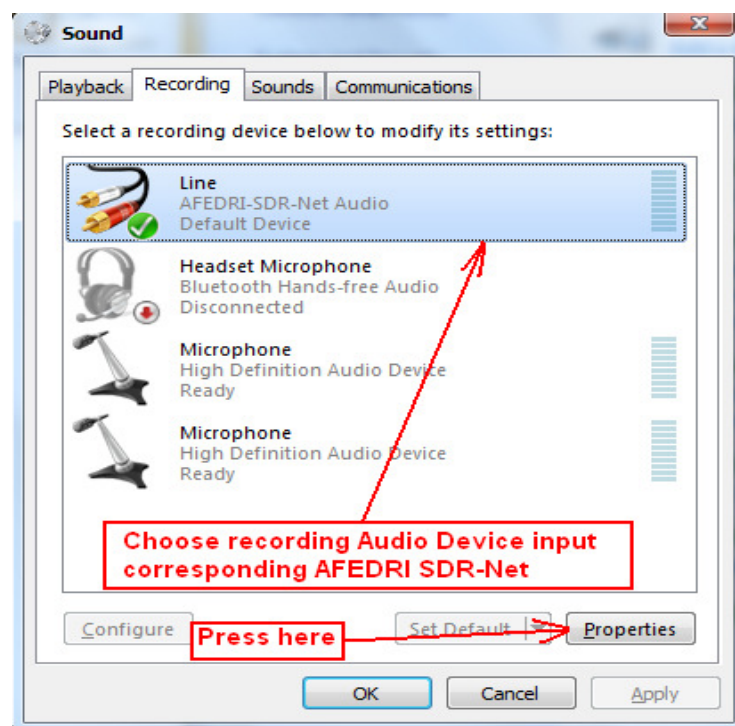

Figure 14 "Sound" window
- In “Sound” window go to “Recording” tab, choose audio input device that corresponds to AFEDRI SDR-Net receiver and press “Properties” button (see **Figure 14**.)